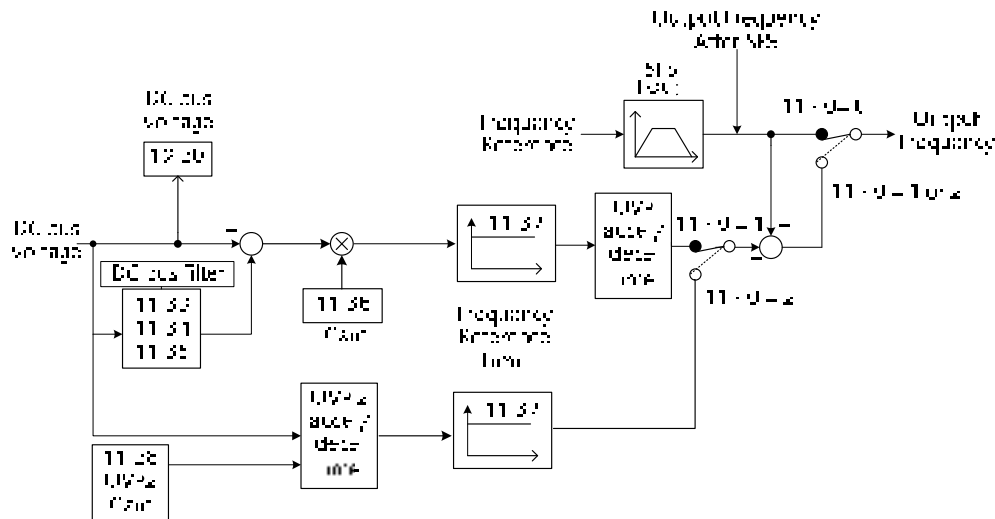

Figure 4.3.91 OVP Operation
- When the speed reference is reduced, the motor will start to decelerate. When the inverter is operating at a fixed output frequency and excessive regenerative energy back to the inverter is detected, the inverter will accelerate the motor in order to reduce the DC-bus voltage. Refer to figure 4.3.91.